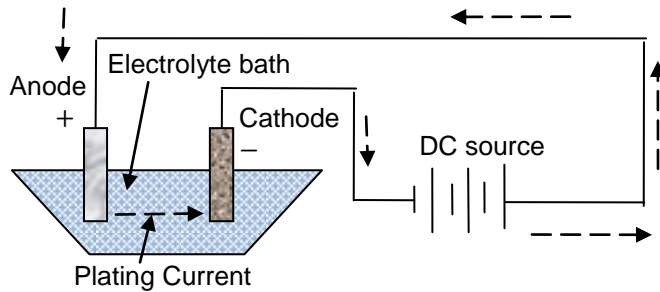

FIGURE 3: The Principal of the Electroplating Process
Passage 4 and Figure 3 that follow show you how details in a passage and in a diagram work together. **Review the four steps and apply them to this exercise.**
ECM developed out of the electroplating process, and therefore, an explanation of the electroplating is beneficial (refer to figure 3). Two bars of unlike metal are immersed in an electrolyte solution. One bar is connected to a negative lead on a battery, while the other is connected to the positive lead. When the circuit is closed, direct current (DC) passes through the electrolyte solution between the two bars of metal. The chemical reaction causes metal from one bar to be transferred to the other.
Look at the detail available in Figure 3 and Passage 4. You can see: